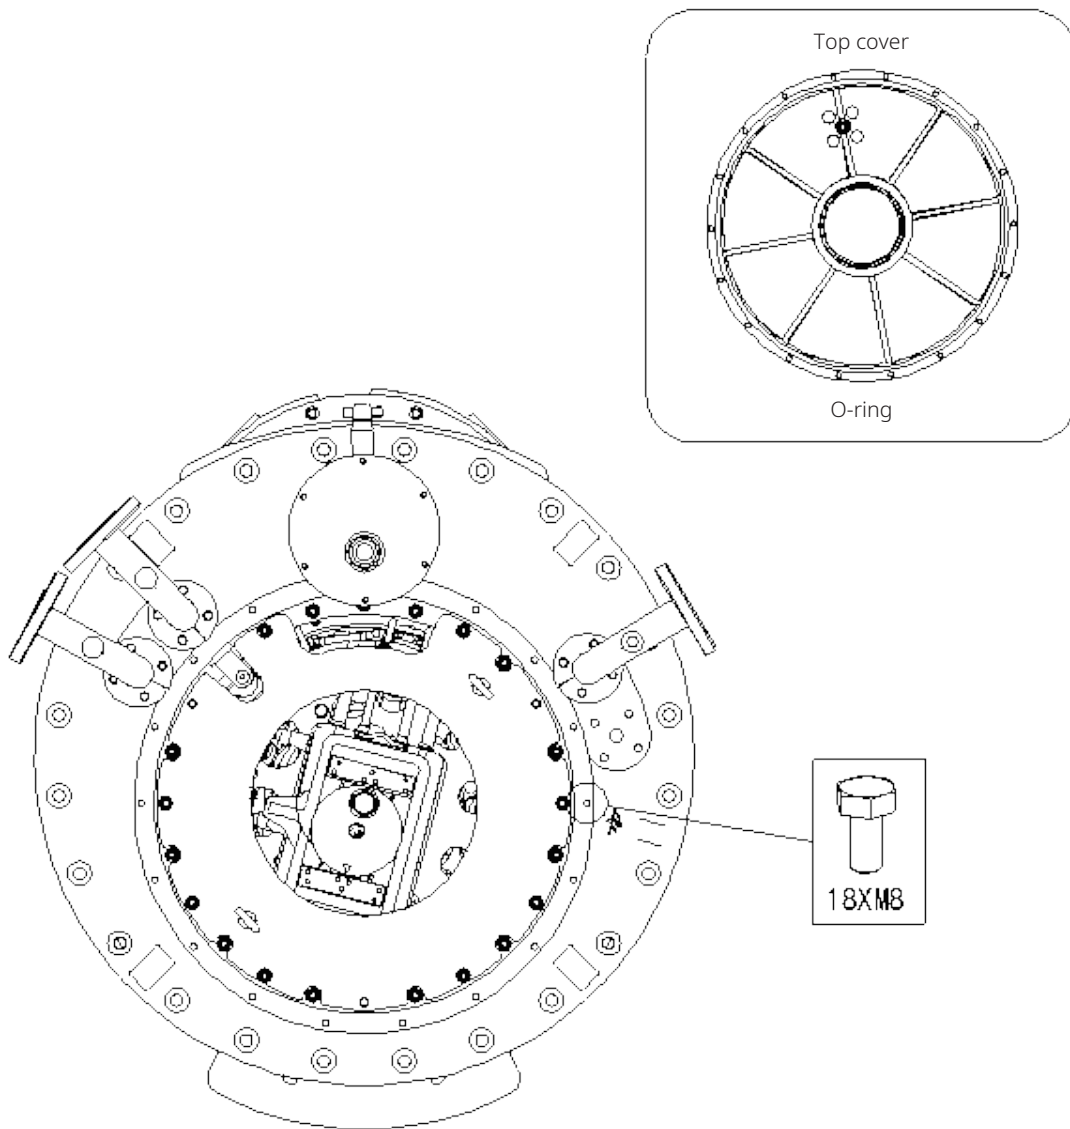

Figure 5-3 Top Cover Removal Diagram
- Avoid damaging the sealing surfaces of the top cover and the OLTC mounting flange (O-ring, see Figure 5-3) during disassembly.